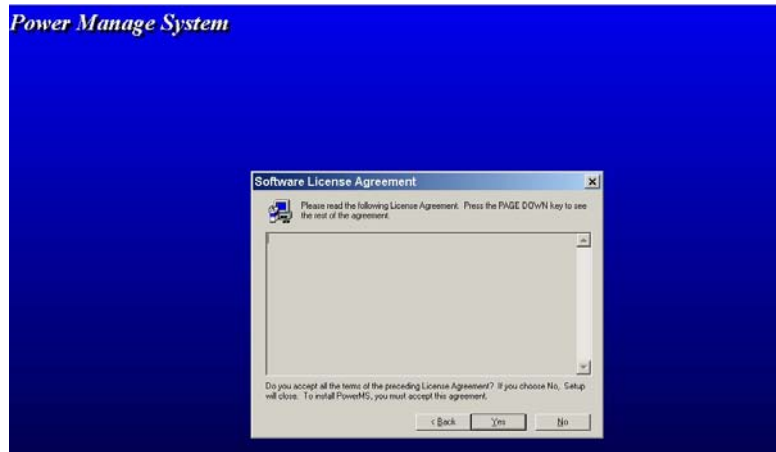

Fig. 3-3 The License agreement window
- 3.1.3 Fig. 3-3 displays the software license agreement. Read it and press “YES” to continue, Otherwise, the install will be discontinued.